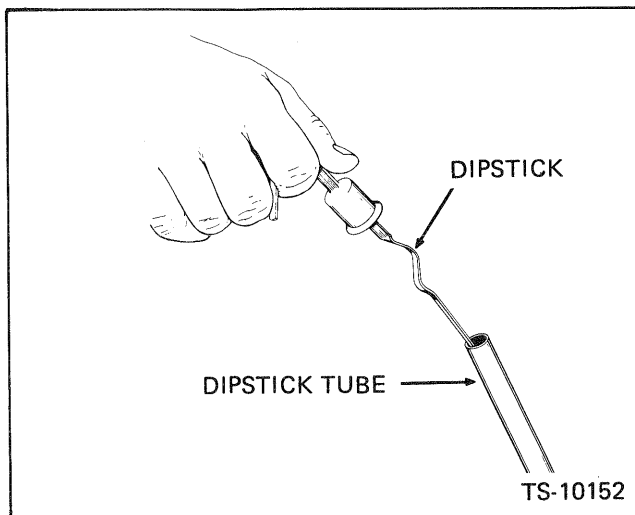

Fig. 9-1 Dipstick — Transmission
Check, using the dipstick located to the left of operator's seat. Fig. 9-1. Pull out the dipstick and
7. Refill the transmission and torque converter with the type of fluid specified in this through the filler neck until the correct level shows on the dipstick. Fig. 9-1